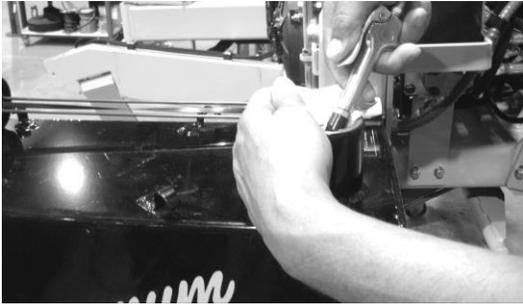

Figure 4—Apply light pressure to the fuel tank as shown.
5. Remove the cap from the fuel tank. Using compressed air and a shop towel (**Figure 4**), lightly pressurize the fuel tank.